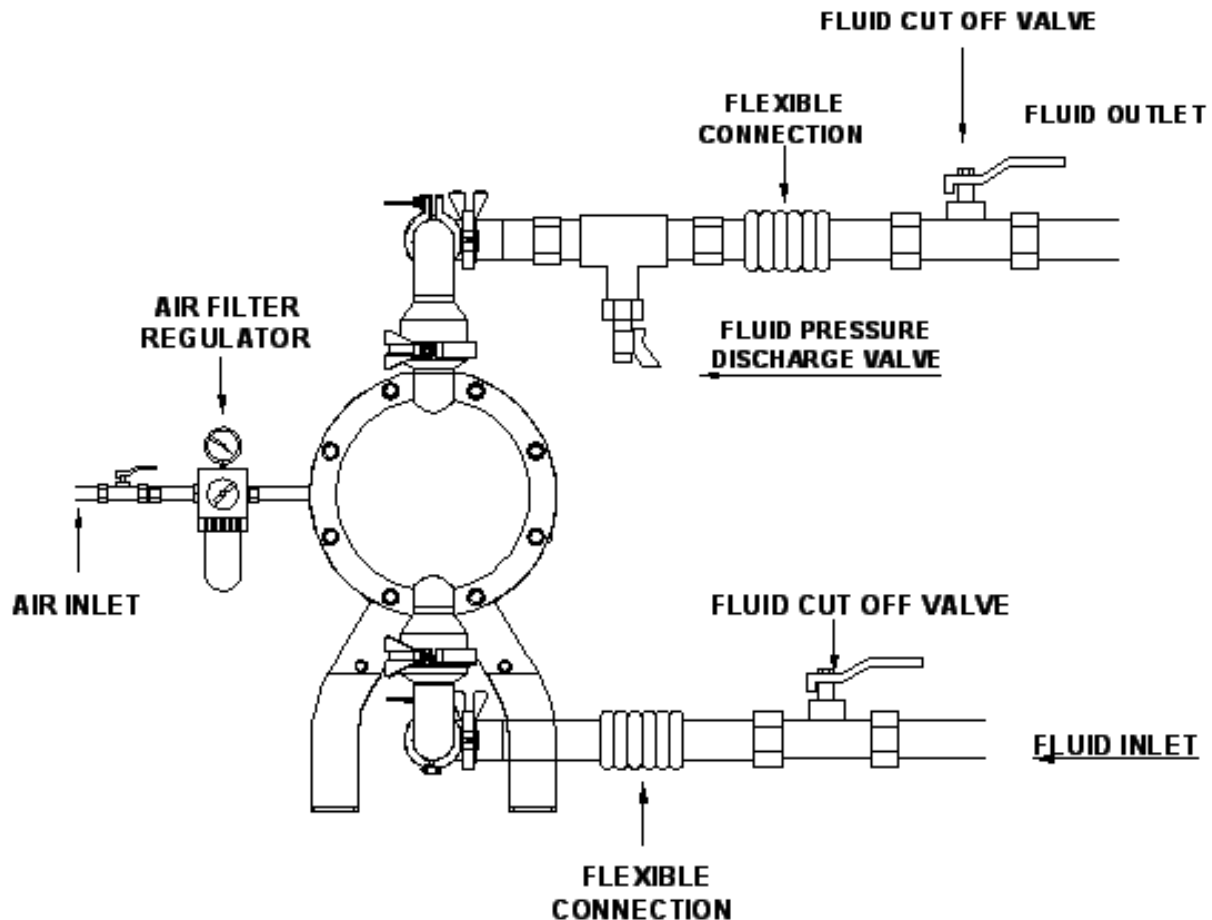

Figure 7- Typical installation scheme
A typical setup configuration is shown in figure 7. Further information and consultation on pump setup can be provided by your Ran Pump distributor.
A bleed-type master air valve is required in your system to relieve air trapped between this valve and the pump. Trapped air can cause the pump to cycle unexpectedly, which could result in serious injury, including splashing in the eyes or on the skin, injury from moving parts, or contamination from hazardous fluids. See Fig. 7.
1-Refer to the Figure 7 for the connection scheme. Fix these accessories to the wall or to a bracket. The air line feeding the accessories must be grounded.
5.6.1 For the pump: Use a conductor (for grounding) with a cross-section of at least 1.5 mm². Connect the conductor to the pump's leg as shown on Fig. 7, and the other end to the grounding line.